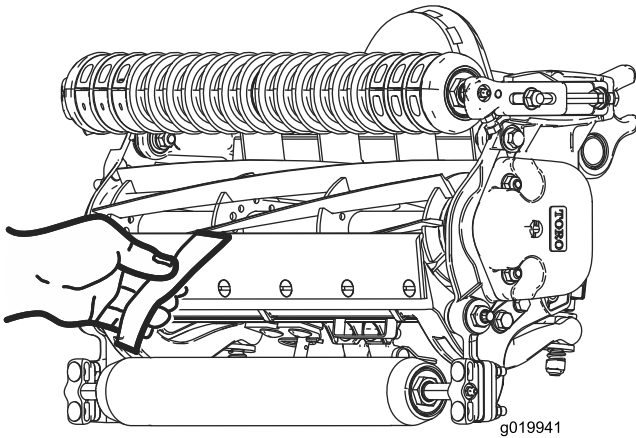

Figure 10
10. Test the cutting performance by inserting a long strip of cutting performance paper (Toro part number 125-5610) between reel and bedknife, perpendicular to the bedknife (Figure 10).